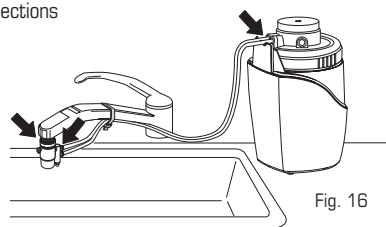

Fig. 16
8. Check for any signs of leakage at the Diverter and at all tubing connections (Fig 16). If there is leaking or bubbling, refer to Troubleshooting, p. 7.